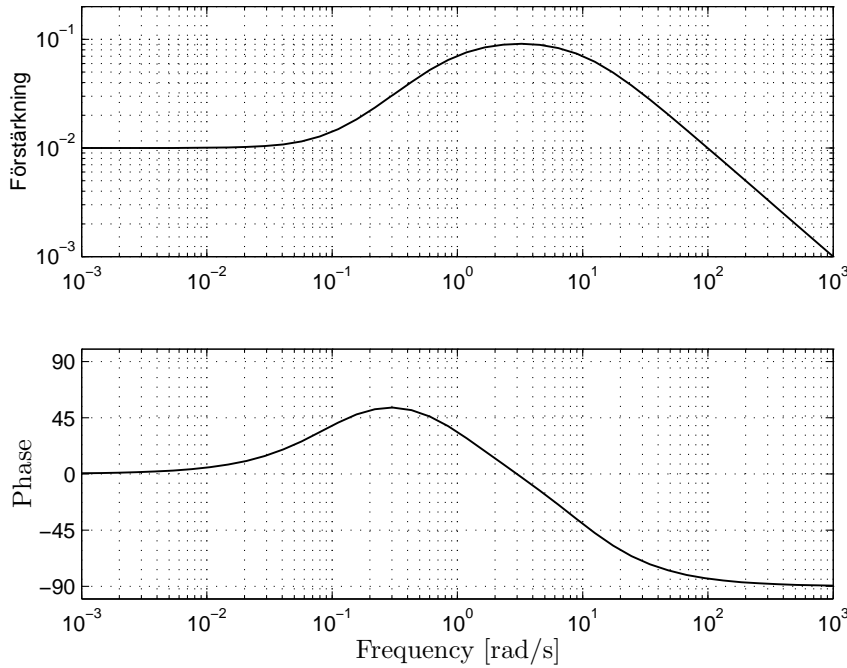

Figure 5.1 The Bode plot in assignment 5.3.
- The Bode plot of the system is shown in figure 5.1. Determine the output  $y(t)$  by using the Bode plot instead.